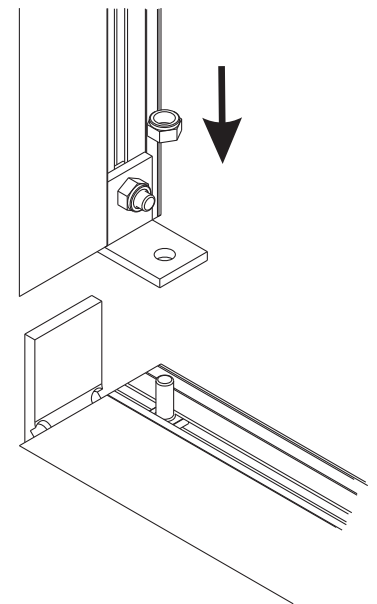

Fig 3
3 Fit the Internal Angle Brackets (6) into the ends of the Base Crossbar/Upright Assembly and slide the other Crossbar/Upright Assembly over the Internal Angle Bracket. Bolt in place using the External Angle Bracket (7) and the M10 Nyloc Nuts (8), as shown in Fig 3.